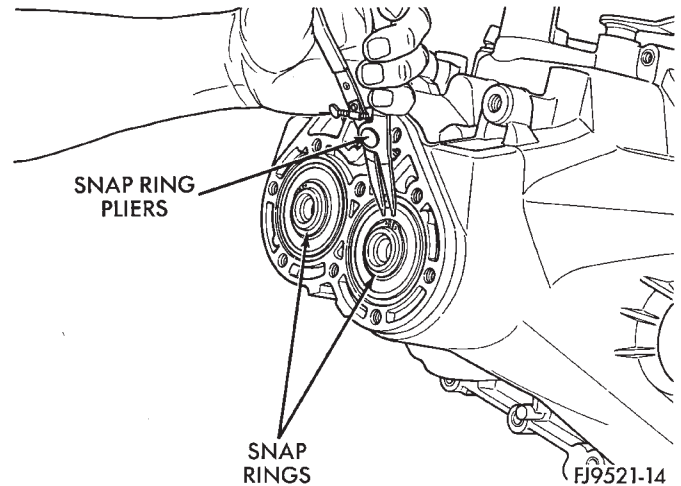

Fig. 77 Snap Rings Retaining Bearings
(12) Install shaft snap rings at input and output bearings (Fig. 77).